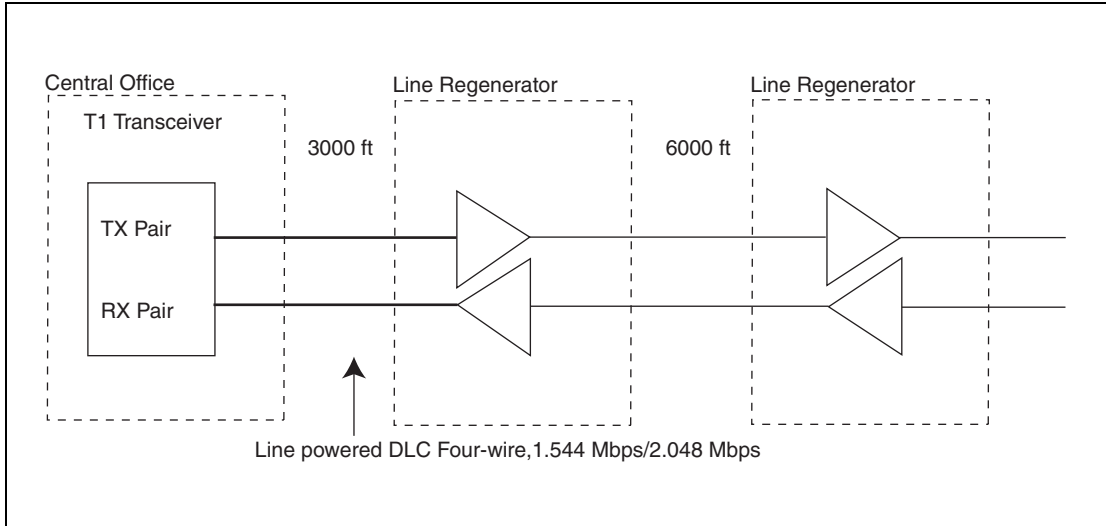

Figure 3.16 T1/E1 Overview
T1/E1 networks offer data rates up to 1.544 Mbps (2.058 for E1) on four-wire systems. Signal levels on the transmit (TX) pair are typically between 2.4 V and 3.6 V while the receive (RX) pair could go as high as 12 V. Loop powering is typically  $\pm 130$  V at 60 mA, although some systems can go as high as 150 V. (Figure 3.16)